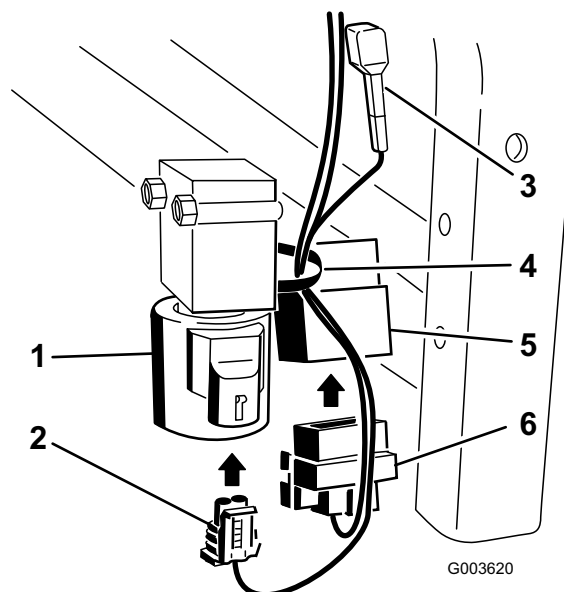

Figure 35
8. Install the square connector to the relay installed next with the valve (Figure 35).
9. Install the small connector to the valve (Figure 35).